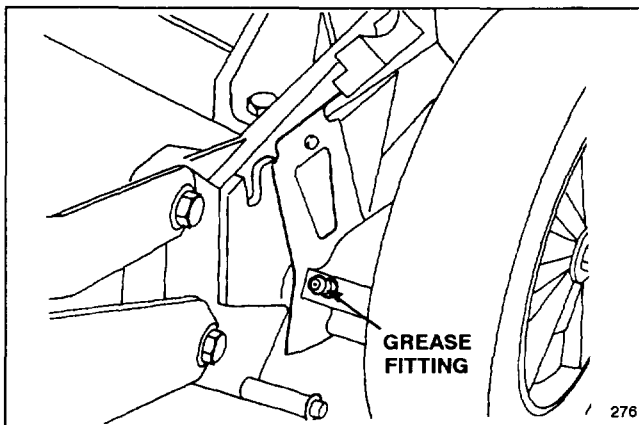

Figure 28
2. Move rear wheel height-of-cut levers to "C" setting. Wipe grease fittings with clean rag (Fig. 28). Install grease gun onto fitting and gently apply two or three pumps of #2 Multi-Purpose Lithium Base Grease. Excess pressure may damage seals and prevent the free wheel clutch from operating properly.